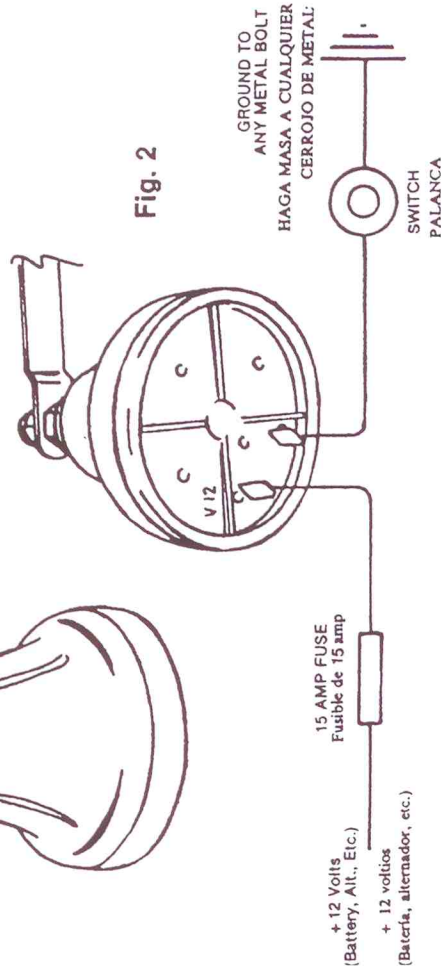

Fig. 2
4. Connect to the Bell terminal marked V12 (+) 12 volts from battery, alt., etc. A 15 amp inline fuse must be used, (not included). See Fig. 2.
5. Connect to other Bell terminal a wire from the bell switch (not included). See Fig. 2.
6. Connect other wire from bell switch to ground. (Place wire under any metal body bolt that is clean of paint and rust). See Fig. 2.